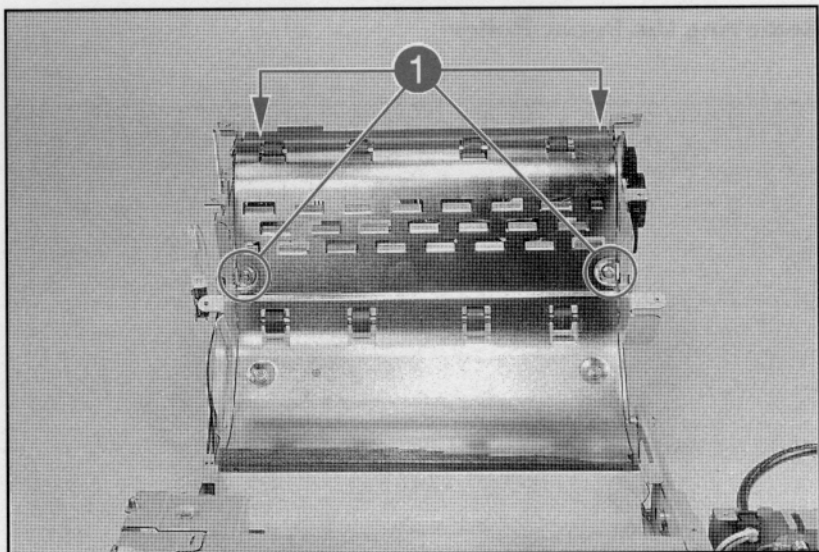

Figure A-14 **Upper Paper Guide Sheet Metal**
- 4** Remove the (4) screws on top of the sheet metal part of the upper paper guide shown in Figure A-14, callout 1.